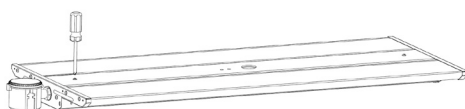

Figure 10
- c) Re-install access cover. (Fig. 10)